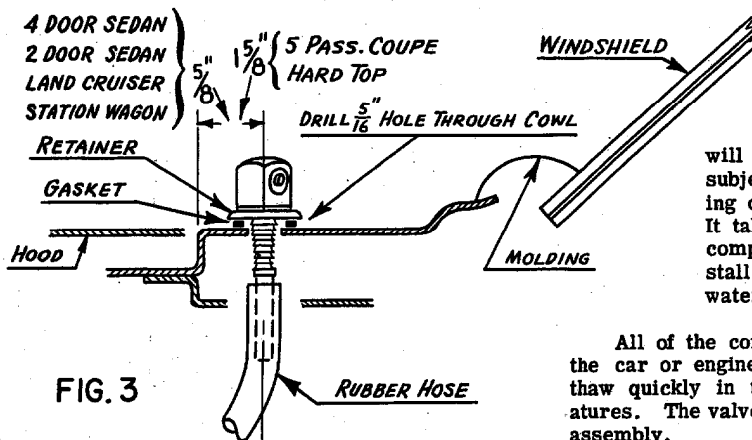

FIG. 3
3. Install nozzle on cowl top as shown in Figure 3. Locate hole center as shown for the car model and drill 5/16" diameter hole exactly on center of cowl top.